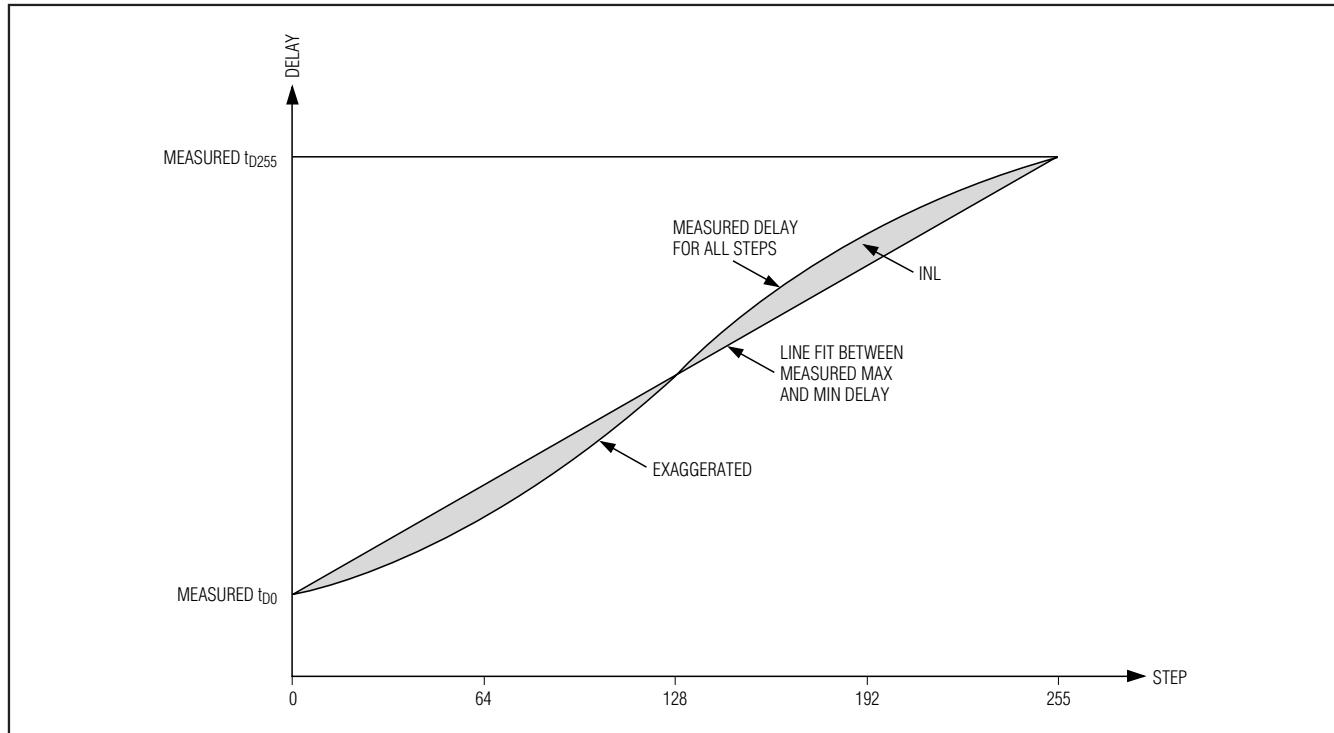

Figure 5. Integral Nonlinearity
**Note 3:** See the *Integral Nonlinearity* section and Figure 5.
Integral nonlinearity (INL) is defined as the deviation from a straight line response drawn between the measured step zero delay ( $t_{D0}$ ) and the measured step 255 delay ( $t_{D255}$ ) with respect to the step 0 delay. Figure 5 shows INL's effect on delay performance graphically.